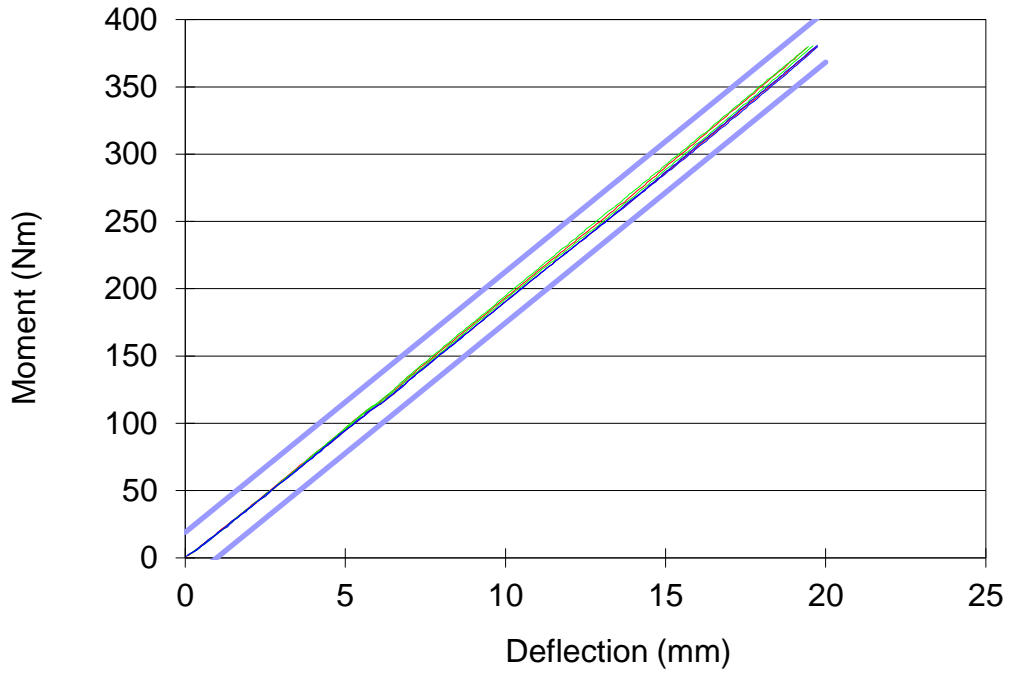

Figure 82 Femur assembly certification corridor moment vs. deflection showing typical results
The loading spigot is at zero load just touching the impact cover. Each bone assembly is loaded to 380 Nm. Check deflection/moment output must be inside corridor see Figure 82 and 83. Temperature for this test must be between 20 ± 2 °C. Note that the loading path from the machine must have no rubber damping otherwise the load curve will be inaccurate. To calculate moment loading centres, femur is 330mm and tibia 410mm. For femur moment $MF = [F (N)/2] \times 0.165 (m)$ and for tibia $MT = [F (N)/2] \times 0.205 (m)$. Loading rate is to be between 10 and 100 mm/min.